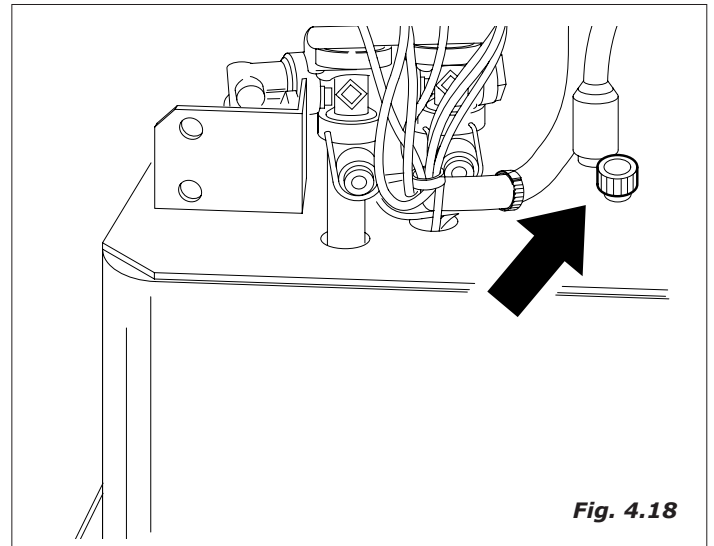

Fig. 4.18
- Remove the cap positioned on the top plate of the cooling unit and insert the instant boiler drain hose which is positioned along the liquid waste chute.(Fig.4.18).